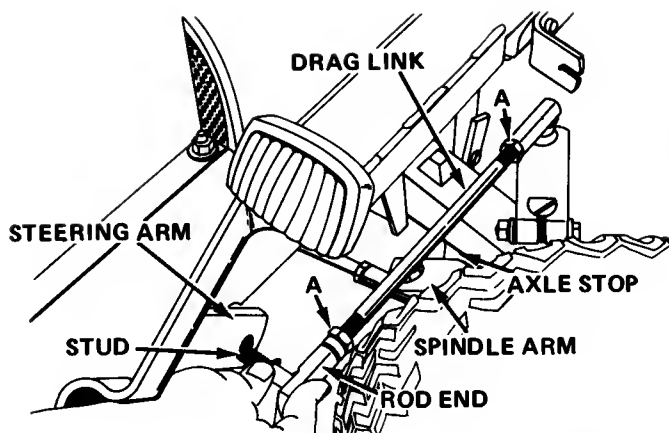

FIGURE 18
When making a full right hand turn, the spindle arm should contact the axle stop as shown in Figure 18. When making a full left hand turn, the left spindle arm should contact the left axle stop. Proceed as follows to adjust the steering stops.
1. Rotate front wheels to the right until right spindle arm contacts the axle stop, Figure 18.
2. Remove drag link rod end from steering arm, Figure 18, and loosen jam nuts A.
3. Rotate drag link as required while preventing the loose rod end from turning until the stud is approximately ½ hole to the rear of hole in steering arm, Figure 18. Be sure axle stop contacts steering arm.